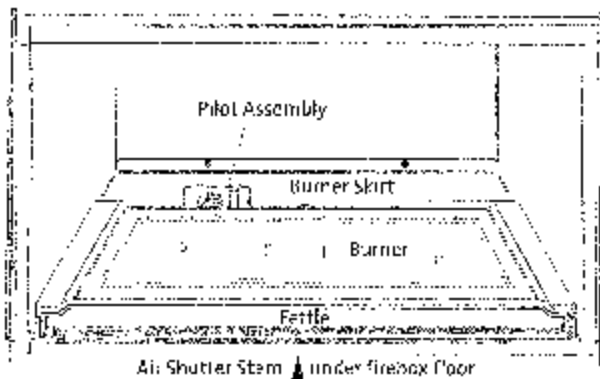

Figure 13. Firebox component identification.
- If you have not already done so, remove the fettle and log set from the firebox. **CAUTION: THE LOGS ARE FRAGILE.** Handle them with care and set aside out of the way. See Fig. 13.
5. **Replace the Burner Assembly:** Slide the venturi tube into the Air Shutter and engage the tube fully over the orifice. The burner should engage with the support brackets on the floor of the firebox. Properly located, the burner will be level and locked into correct alignment with the pilot assembly as in fig. 13.